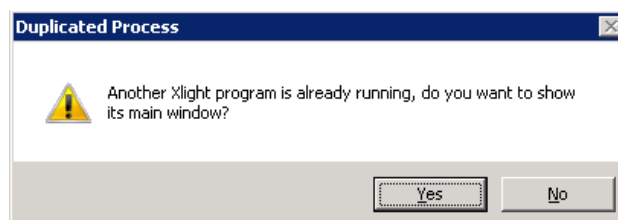

Figure 2-23: Duplicated Process Warning Window
2. The *Duplicated Process* window shown in Figure 2-23 displays. Click **Yes** to proceed.